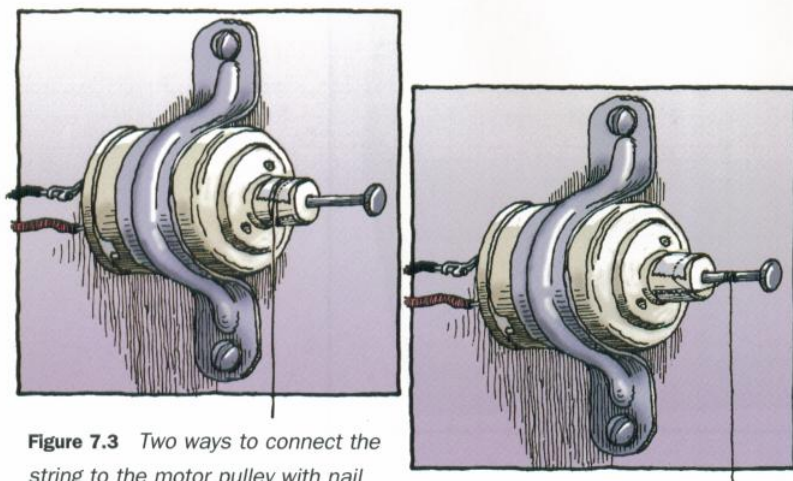

Figure 7.3 Two ways to connect the string to the motor pulley with nail
6. There are two ways to connect the string to the motor. Figure 7.3 shows both arrangements. Do you think it matters if you wind the string around the plastic pulley instead of around the nail?